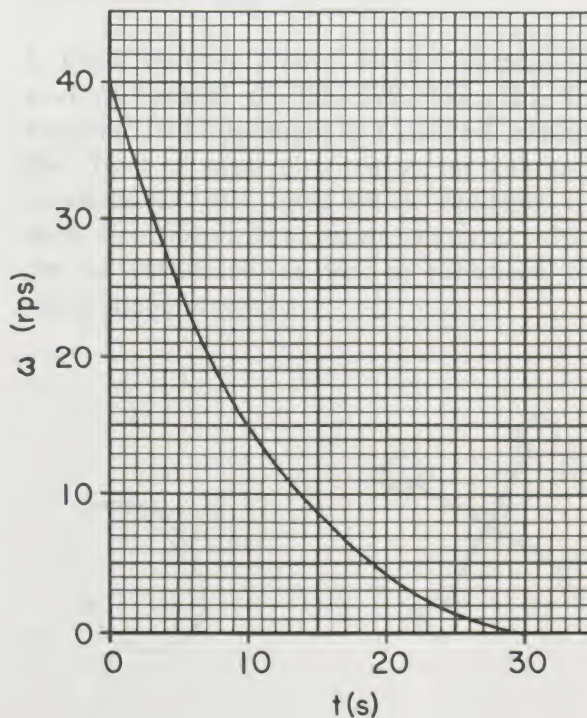

Figure 24.
6. Figure 24 shows typical slow-down behavior of a fan. Calculate the instantaneous rotational acceleration at $t = 5$ s. Calculate the average acceleration between 5 s and 25 s. (Since the fan is slowing down, these rotational accelerations will be negative.)